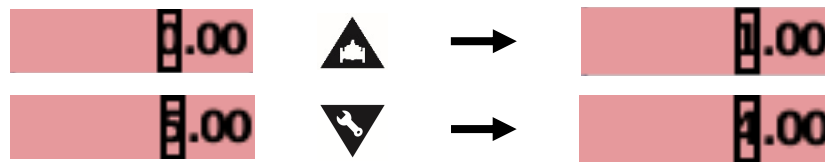

Figure 4.16
- Use the “Up” and “Down” buttons to increase or decrease the selected digit as shown in **FIGURE 4.16**: